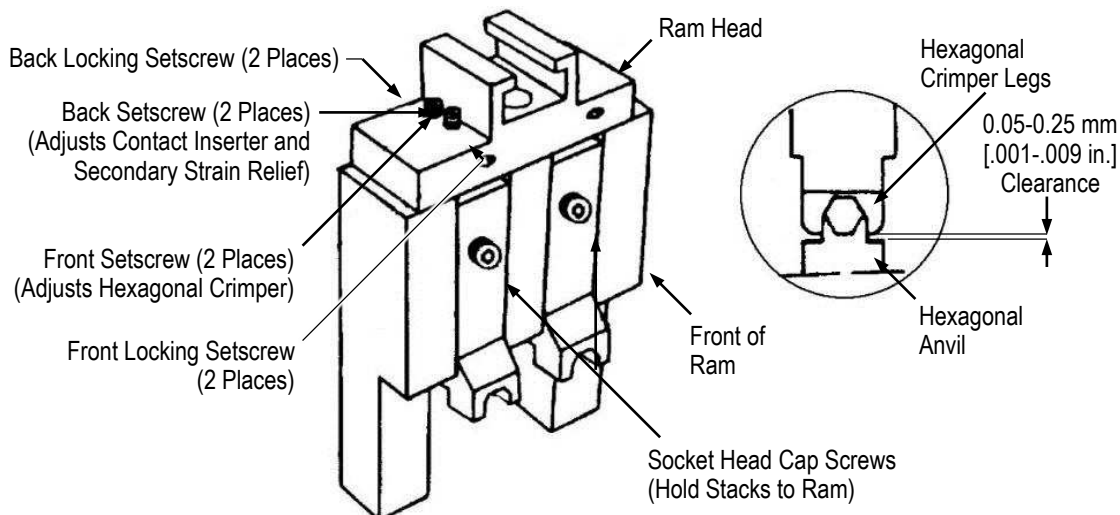

Figure 3
Two setscrews are provided at each side of the ram head (at the top of the module) for adjustment purposes. The front setscrews allow adjustment of the hexagonal crimper. The back setscrews allow adjustment of the contact inserter and secondary strain relief. See Figure 3. If the contacts have the proper crimp height, the secondary strain relief will have the proper height as well (by construction).
3. Check the clearance between the hexagonal crimper legs and the hexagonal anvil with a piece of thin paper. Clearance must be within the dimensions given in Figure 3. If adjustment is required, slightly loosen the socket head cap screws at the front of the ram and the front locking setscrews at the front of the ram head. Then rotate the front setscrews to adjust the hexagonal crimper.